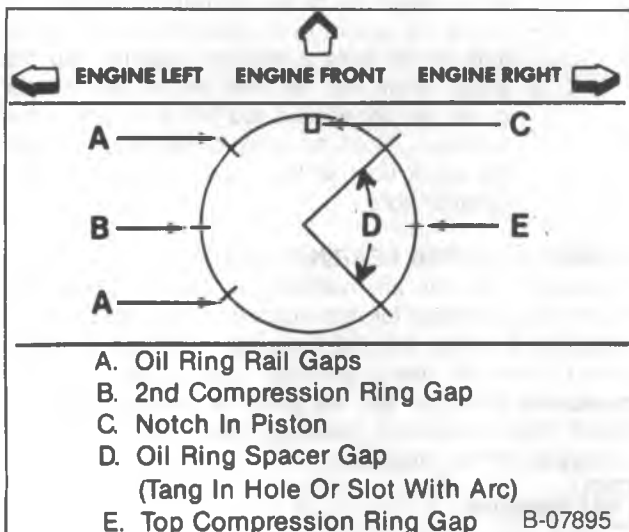

Figure 48—Piston Ring Gap Location
1. Connecting rod bearing inserts (55).
- Locate the piston ring end gaps as shown in figure 48. Lubricate the piston and rings with engine oil.